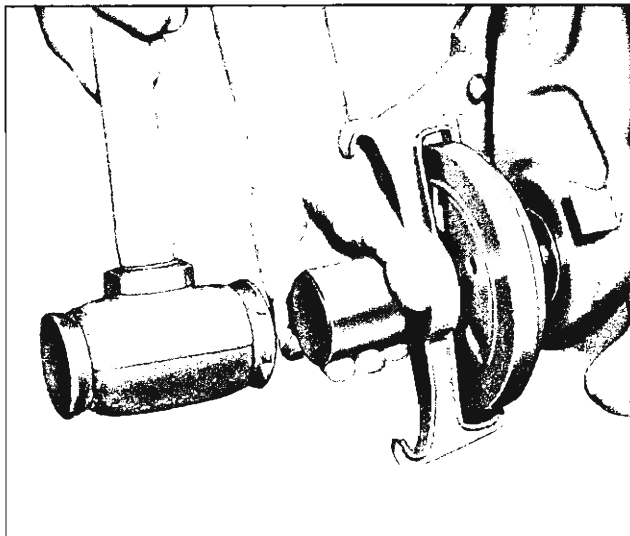

Fig. 88—Installer Tool in Place
3. Install tool over balancer as shown in Figure 88 with pilot adapter in the bore of hub. Tighten threaded driver only finger tight to keep from pulling balancer apart.